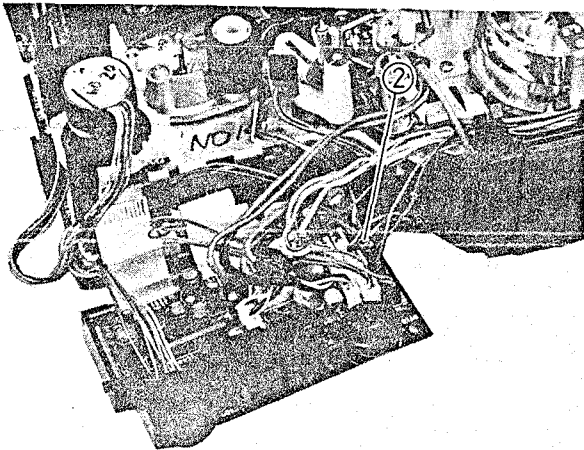

Fig. 2-65 Take-up End Sensor Removal
Take-up End Sensor Removal (Figs. 2-65, 2-66)
2. Disconnect connector CN124. (See Fig. 2-65)